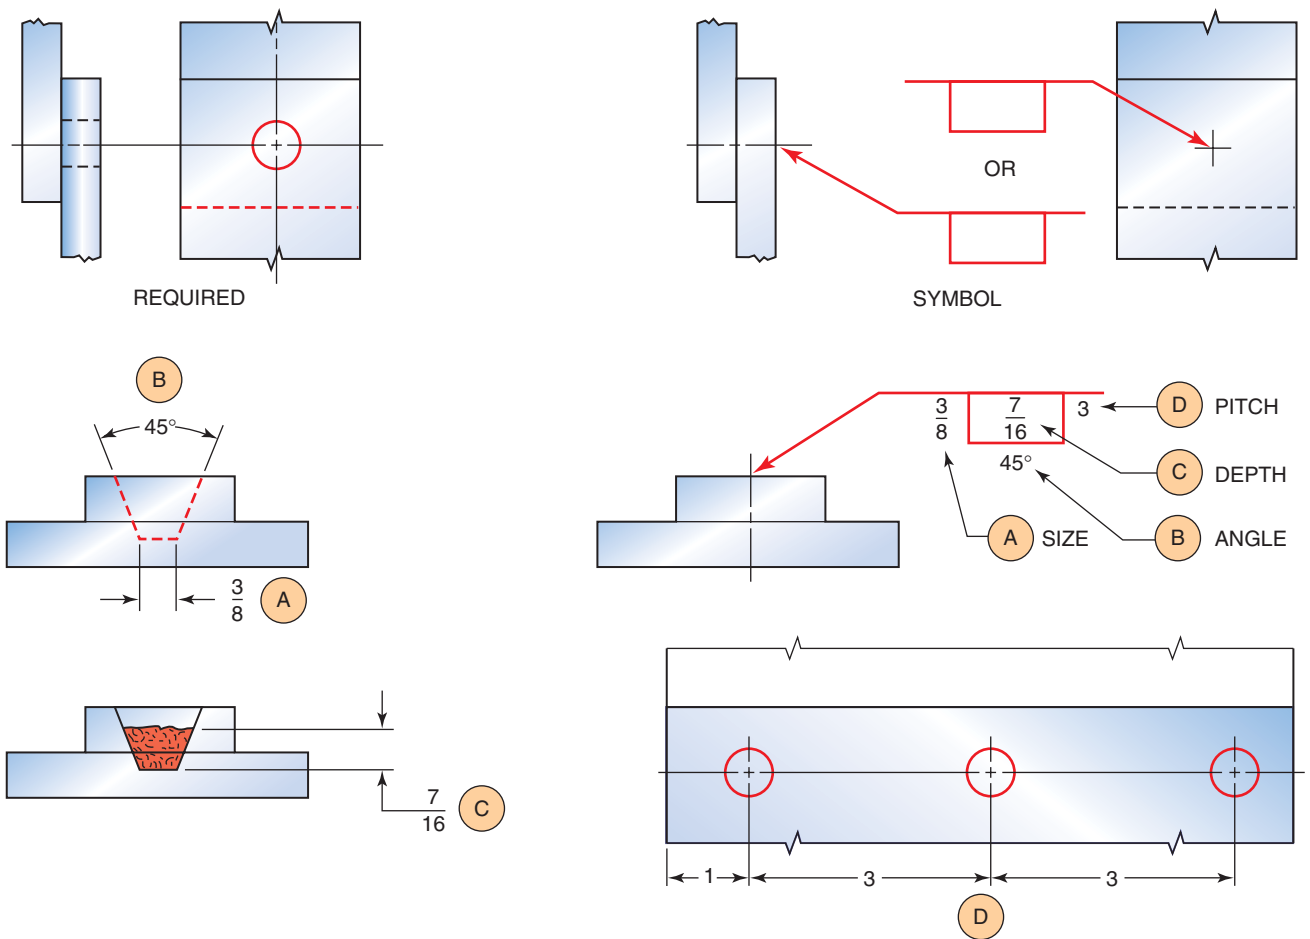

Figure 3.35 Applying dimensions to plug welds
symbol above the reference line, Figure 3.35. Refer to Figure 3.35 for the location of the dimensions used on plug welds. The diameter or size is located to the left of the symbol (A). The angle of the sides of the hole, if not square, is given above the symbol (B). The depth of buildup, if not completely flush with the surface, is given in the symbol (C). The center-to-center dimensioning, or pitch, is located on the right of the symbol (D).